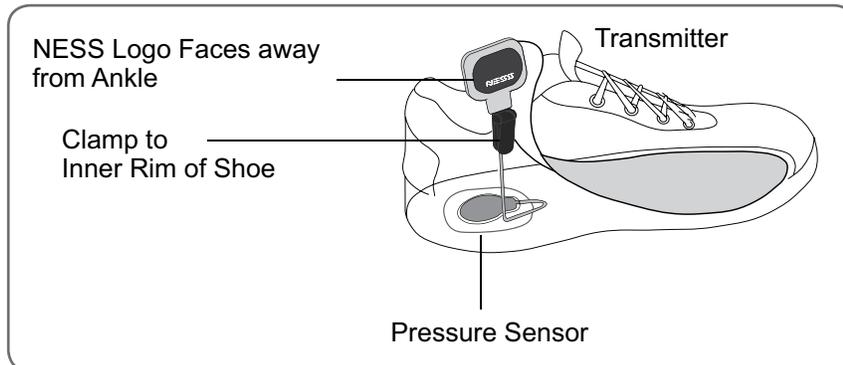

Figure 10-14: Clamping the transmitter to the inner rim of the shoe.
4. Clamp the Intelli-Sense Gait Sensor transmitter to the inner rim of the shoe. Face the NESS logo on the transmitter away from the ankle. See Figure 10-14.